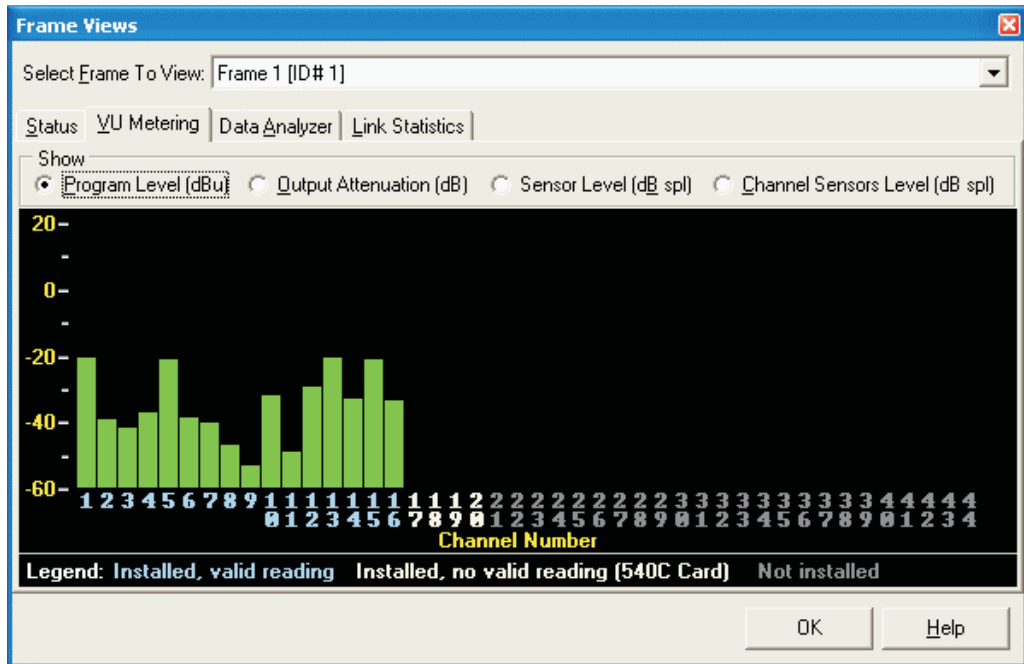

Figure 42 - Frame Views 2
- **VU Metering** shows the selected frame's channel online metering. There are 44 meters and their measurements are real time. Refer to Figure 42
- **Program Level** is the channel's program level. See Figure 42. Default meter levels (no measured signal) are: